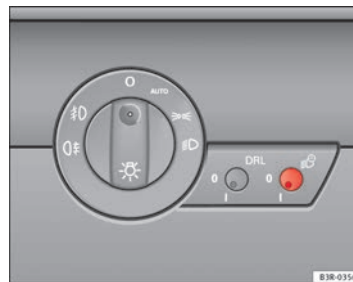

Fig. 85 Detailed view of the dash panel: Coming home and leaving home functions
- Briefly press the knob ⇒ Fig. 85 to release it from its set position.